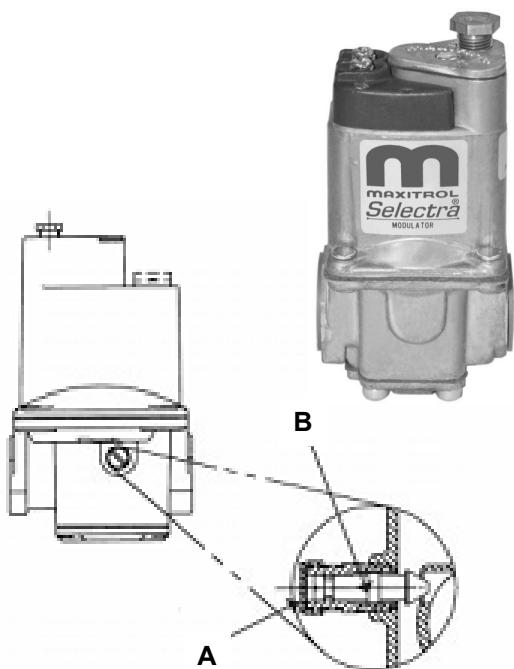

Figure 12– Modulating Valve (model may vary from picture)
8. On the modulating valve (Figure 12 p.17), remove by-pass cap (A) and turn screw (B) using small screwdriver to desired low fire setting (Table 7 p.17). Note: Clockwise screw rotation reduces flow rate. Do not over tighten.
10. On the modulating valve (Figure 12 p.17), remove by-pass cap (A) and turn screw (B) using a small screwdriver to desired low fire setting. (Table 7 p.17) Note: Clockwise screw rotation reduces flow rate. Do not over tighten.